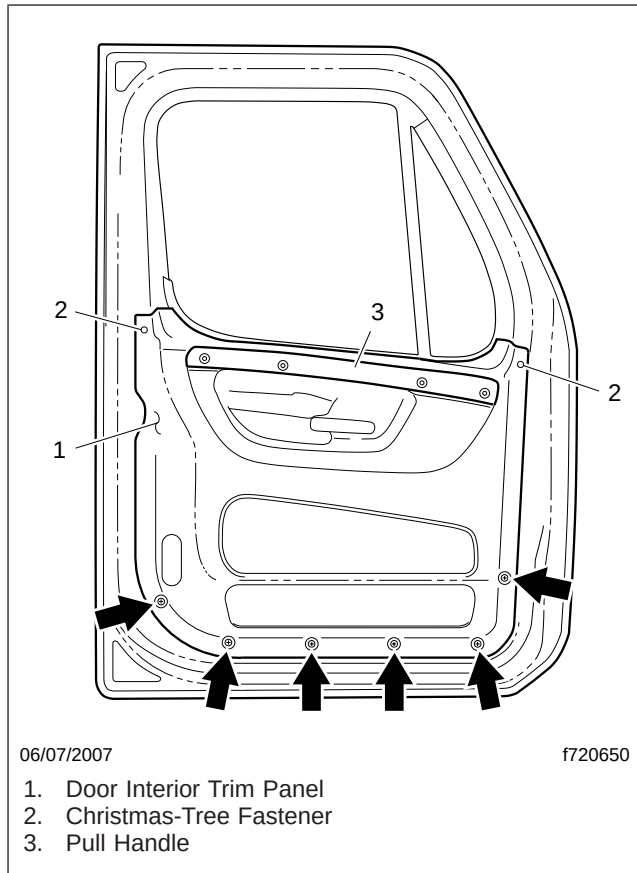

Fig. 1, Door Interior Trim Panel Screws
2. Remove the pull handle by removing the four Torx screws that attach it to the door cassette; see Fig. 1.